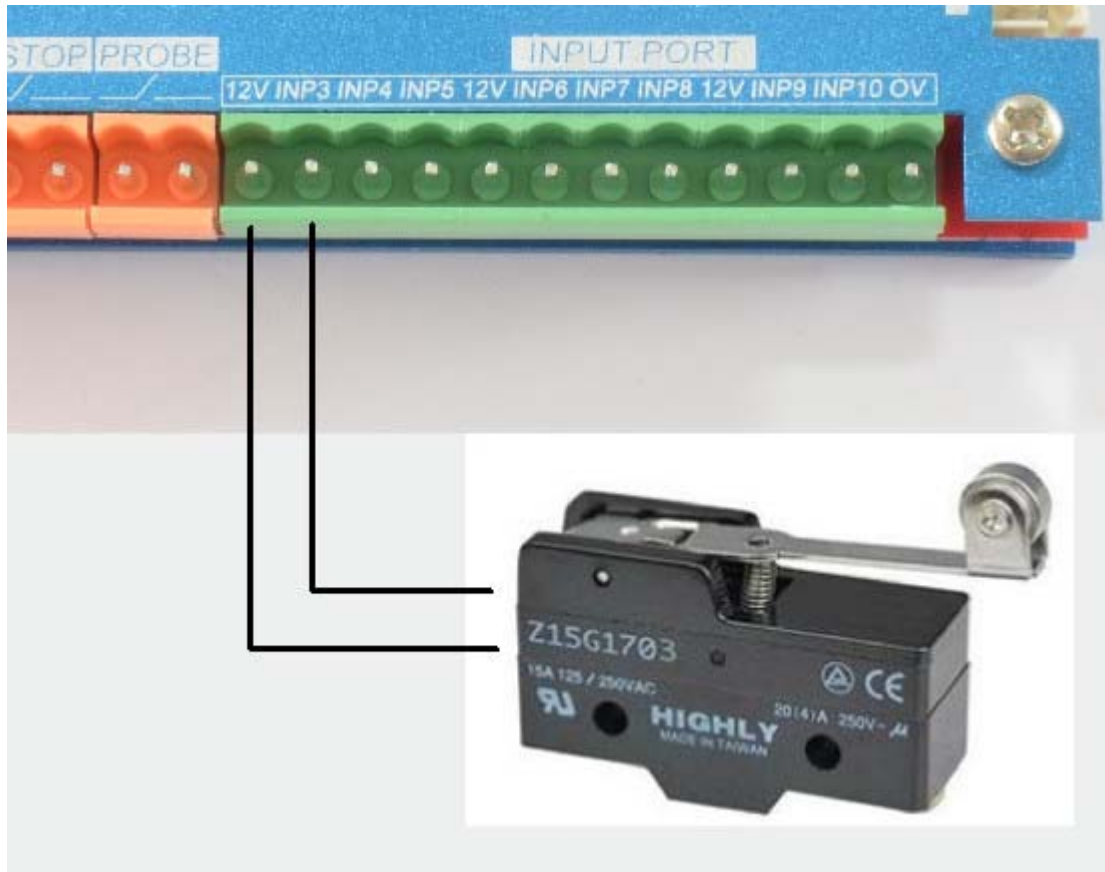
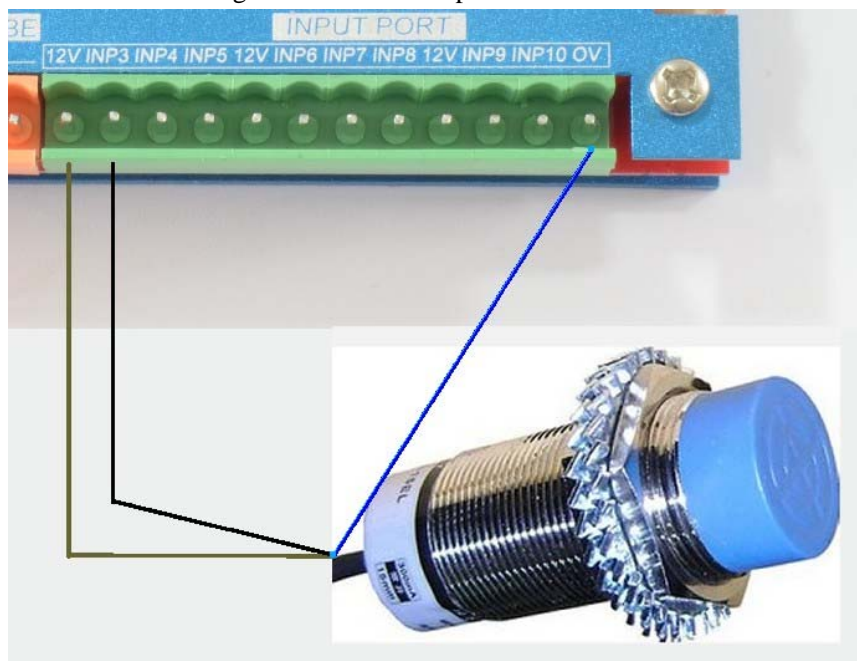

Figure2-7. General input connect to mico switch.
Figure2-8. General input connect to 3-wire inductive switch
- E)General input port with opticalcoupler. See as Figure 2-7,2-wire micro switch and inductive switch connect method .Connect 12V and INPX (X=3, 4,5,6,7,8,9,10) .Inductive switch's positive should be connected to 12V and it's negative should be connected to INPX. 3-wire PNP inductive switch should connect to PIN 0V ,see as Figure 2-8.